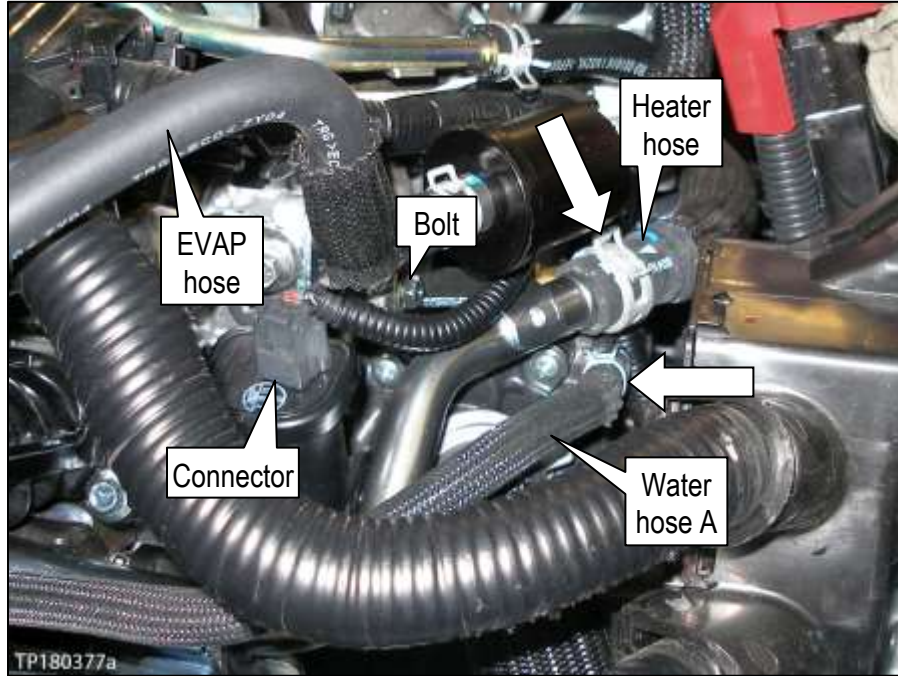

Figure 24
- See white arrows in Figure 24.